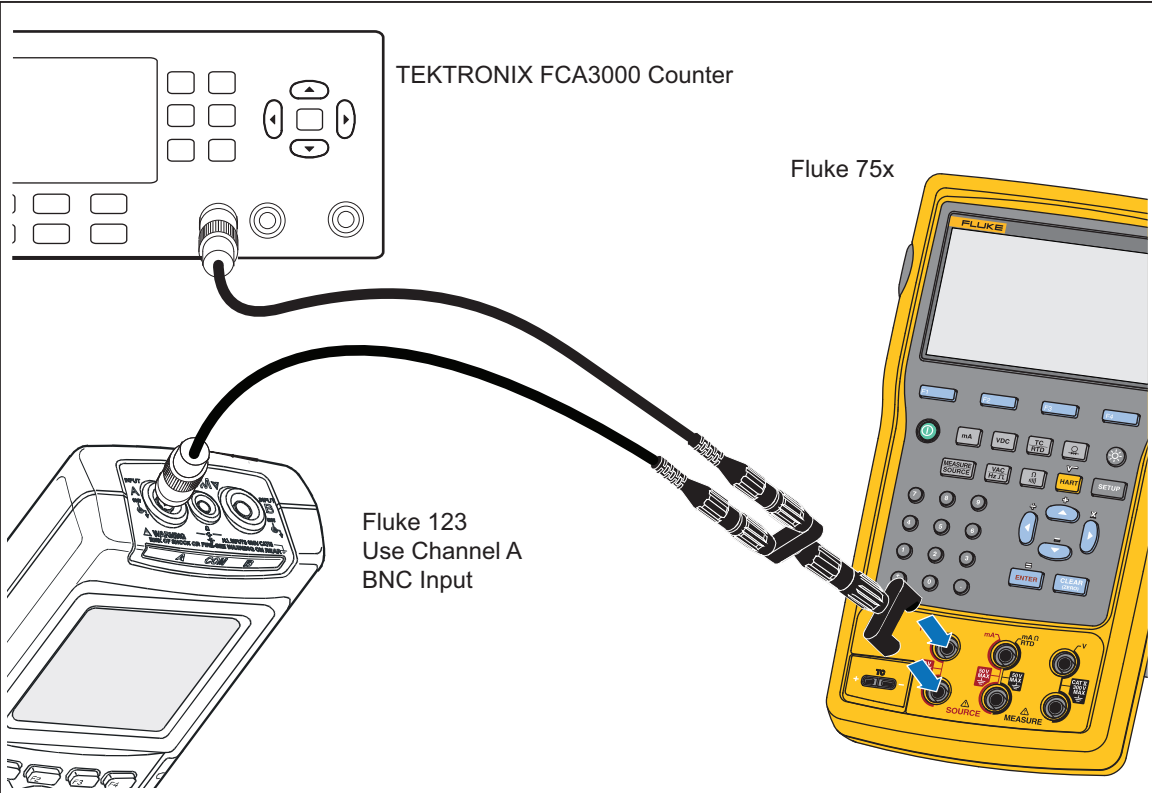

Figure 9. Frequency Source Verification Connections
1. Connect the UUT to the Tektronix FCA3000 Counter as shown in Figure 9.